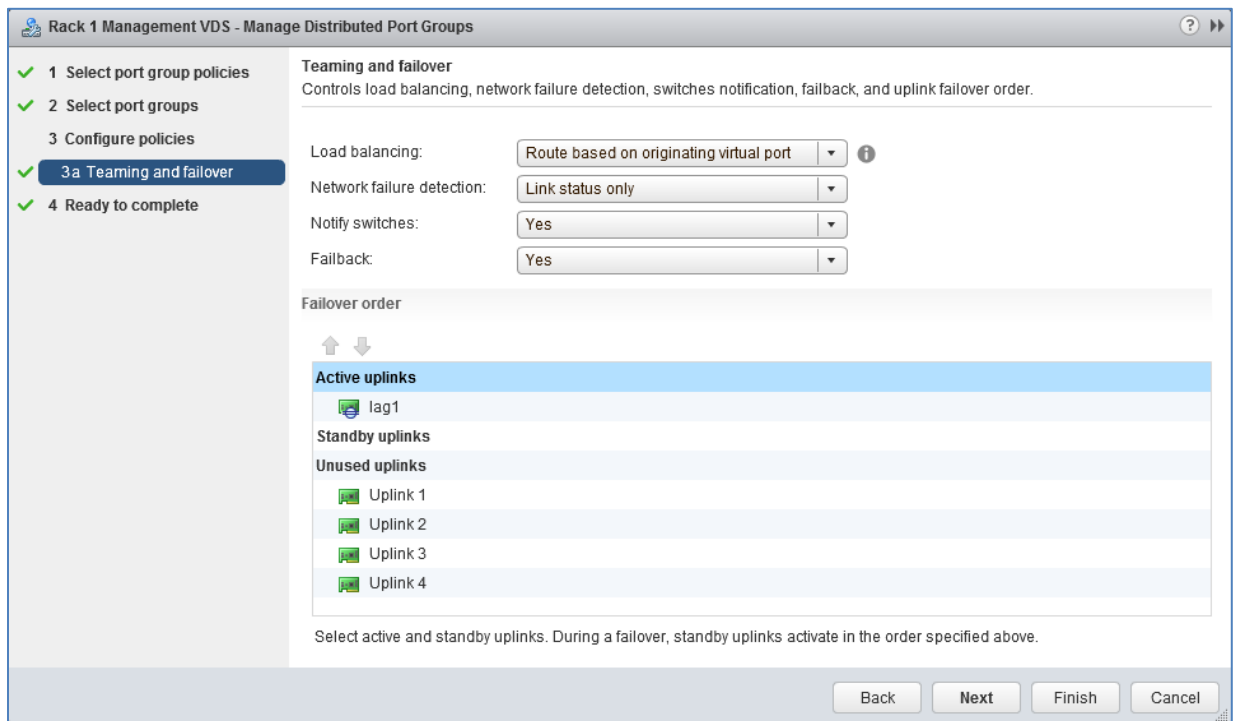

Figure 48 Teaming and failover settings
5. On the **Teaming and failover** page, click **lag1** and move it up to the **Active uplinks** section by clicking the up arrow. Move **Uplinks 1-4** down to the **Unused uplinks** section. Leave other settings at their defaults. The **Teaming and failover** page should look similar to Figure 48 when complete.